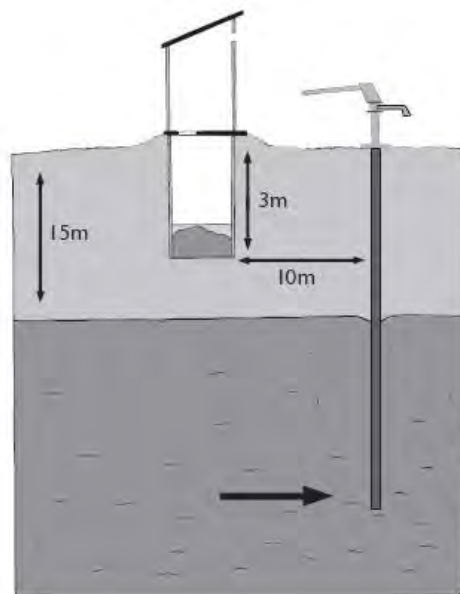

Figure 3
3. The soil is sandy but does not stick together when moist (Figure 3). Is the latrine a safe distance from the pump?